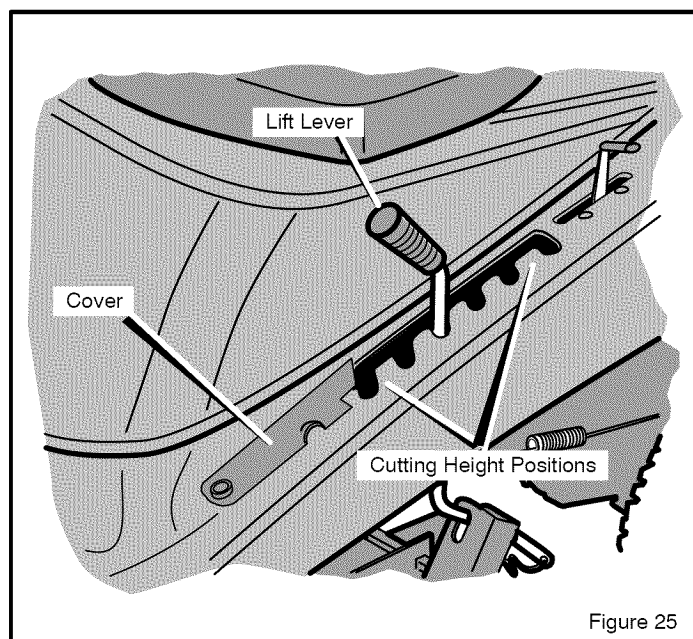

Figure 25
9. Raise the **lift lever** from the LEVEL ADJUSTMENT position to a CUTTING HEIGHT position (Figure 25).